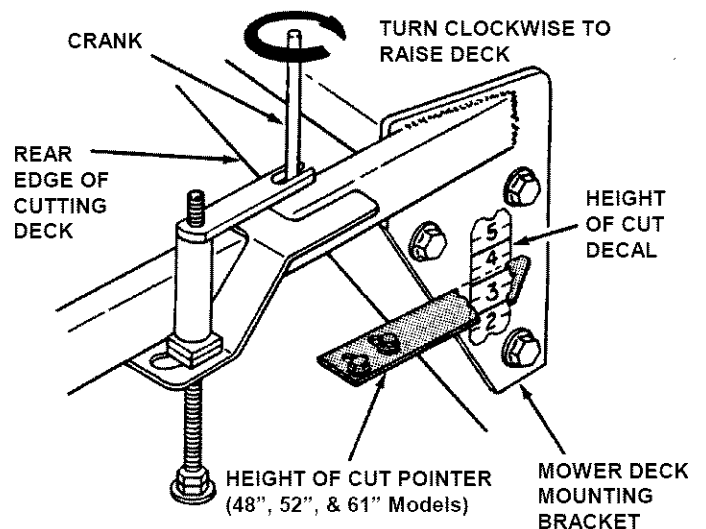

FIGURE 3.17
2. To adjust height of cut, turn both Cranks (located on right hand and left hand side of deck) clockwise to raise the Mower Deck and counter-clockwise to lower the Mower Deck. Observe the height of cut decal located on the side of the Mower Deck mounting plates and move the height of cut pointers in the same de-sired position. See Figure 3.17.